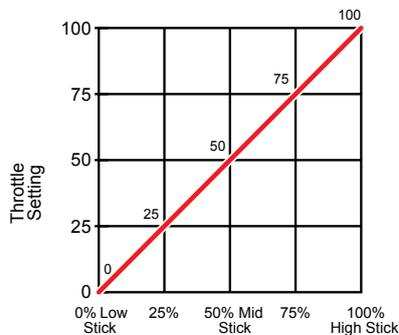

Fig. 17
4. Ensure to set your THROTTLE CURVE linear from full "0%" to "100%". A PITCH CURVE is not needed and **must** be disabled. **Disable all mixing!** Refer to [Fig. 17].